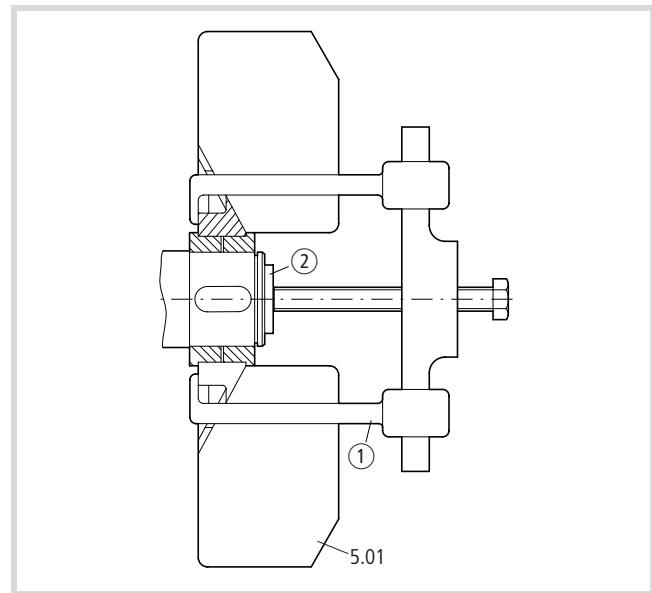

Figure 4: Removing the fan (5.01)
- Use the extractor ① to remove the fan (5.01) from the shaft. Remove small fans manually (→ Fig. 4).